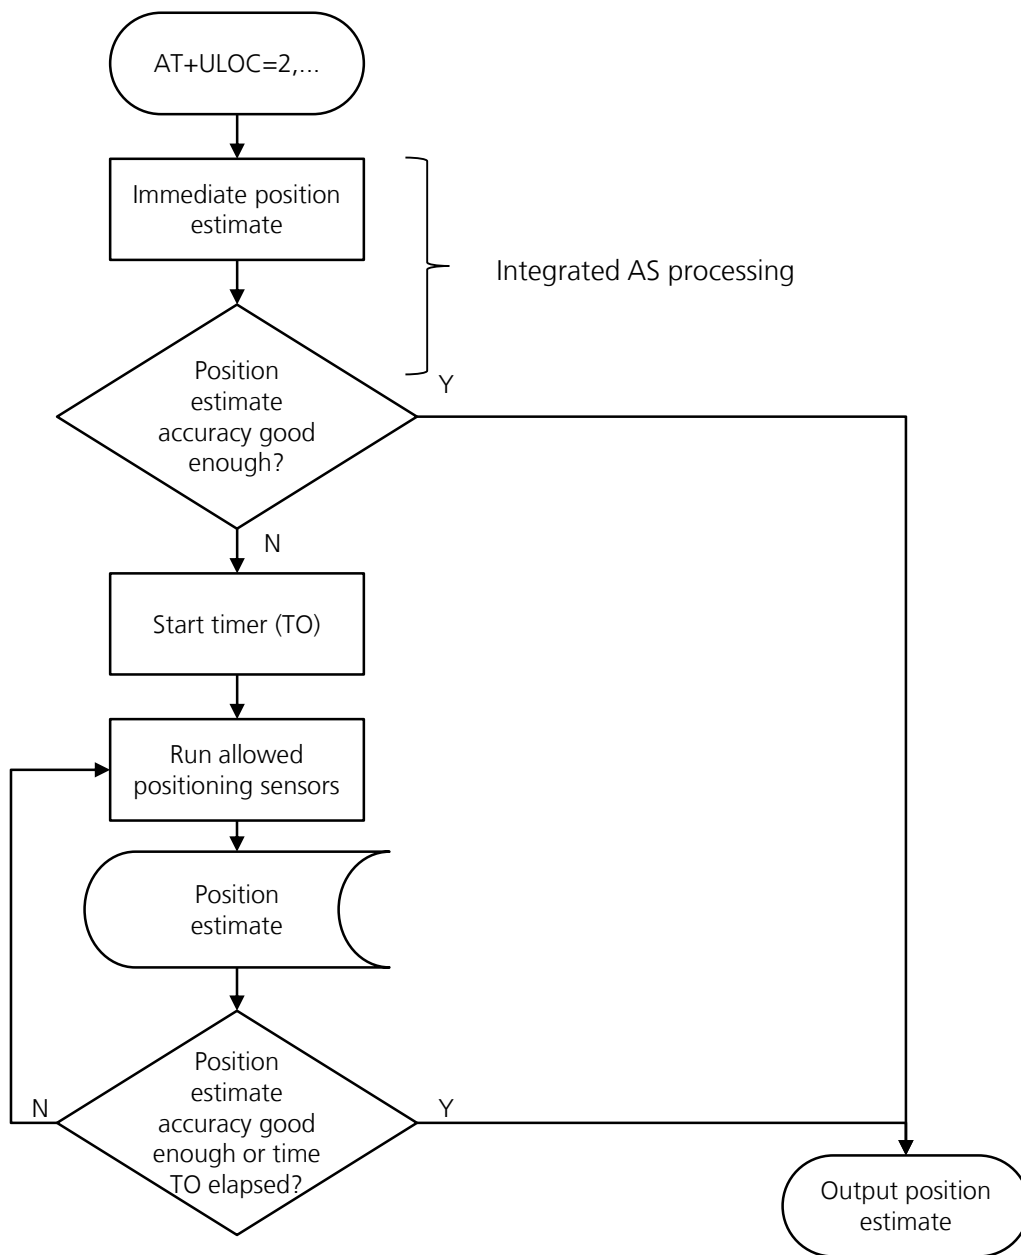

Figure 33: Hybrid positioning flow diagram
Figure 33 shows the general flow of the hybrid positioning function producing a position estimate.
- To get a position estimate with the minimum energy consumption, for maximum battery life, set a large desired accuracy figure for the hybrid positioning, e.g. 1 km, (see the Figure 33, most likely the AS sensor position degraded or the GNSS one will be quickly returned if the time spent is below 30s)